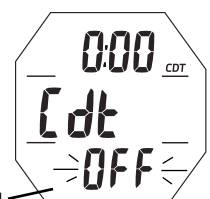

Fig. 7A - CDT STATUS
CDT Status, information includes (Fig. 7A/B):
- > Graphic OFF (or ON) flashing (Fig. 7A).